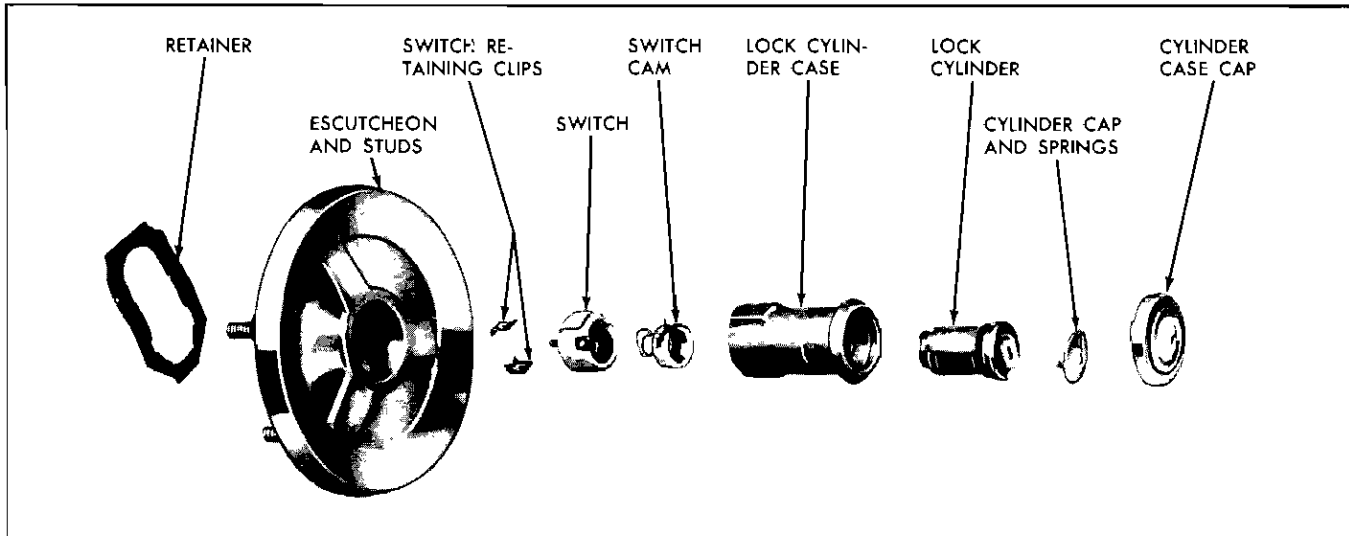

Fig. 4-20 Tail Gate Lock Cylinder and Switch
2. Disengage lock cylinder and switch retainer (Fig. 4-20) and remove lock cylinder and switch assembly from escutcheon.
1. Using a pointed tool inserted through holes in lock cylinder case, depress tab of switch clips and remove clips (Fig. 4-20).